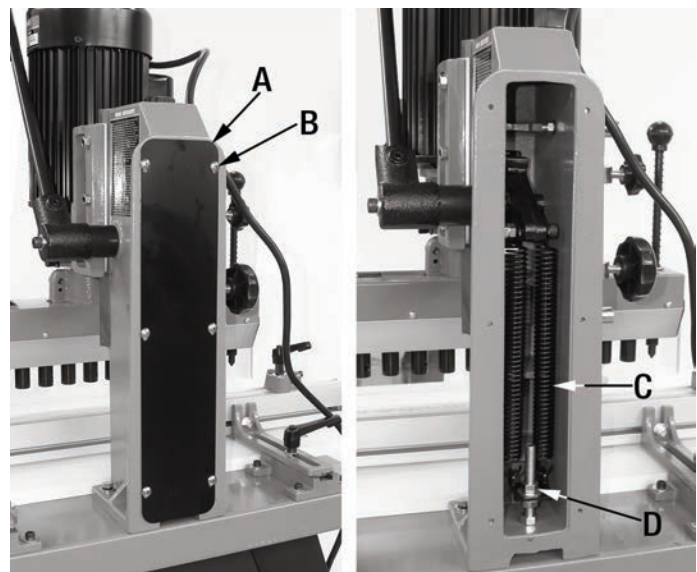

FIGURE 17
The return springs (C) Fig.17 located at the rear of the column are used to return the boring feed handle to its original position. Over time, the spring may loosen slightly. If the spring becomes too loose, an adjustment can be made.
Remove rear cover (A) Fig.17 by removing all 6 pan head screws (B). Tension the return springs (C) to ensure it's functioning properly by tightening the top hex. nut (D).